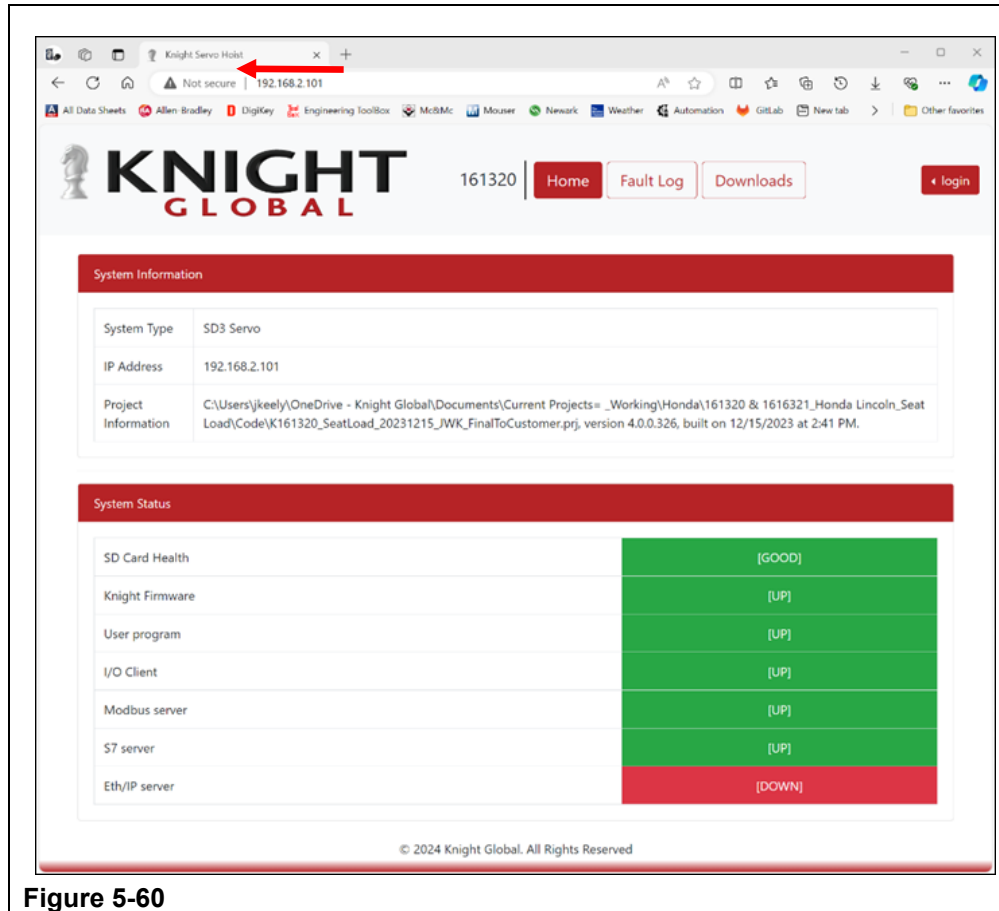

Figure 5-60
Step 2. The web page will be similar to Figure 5-60.